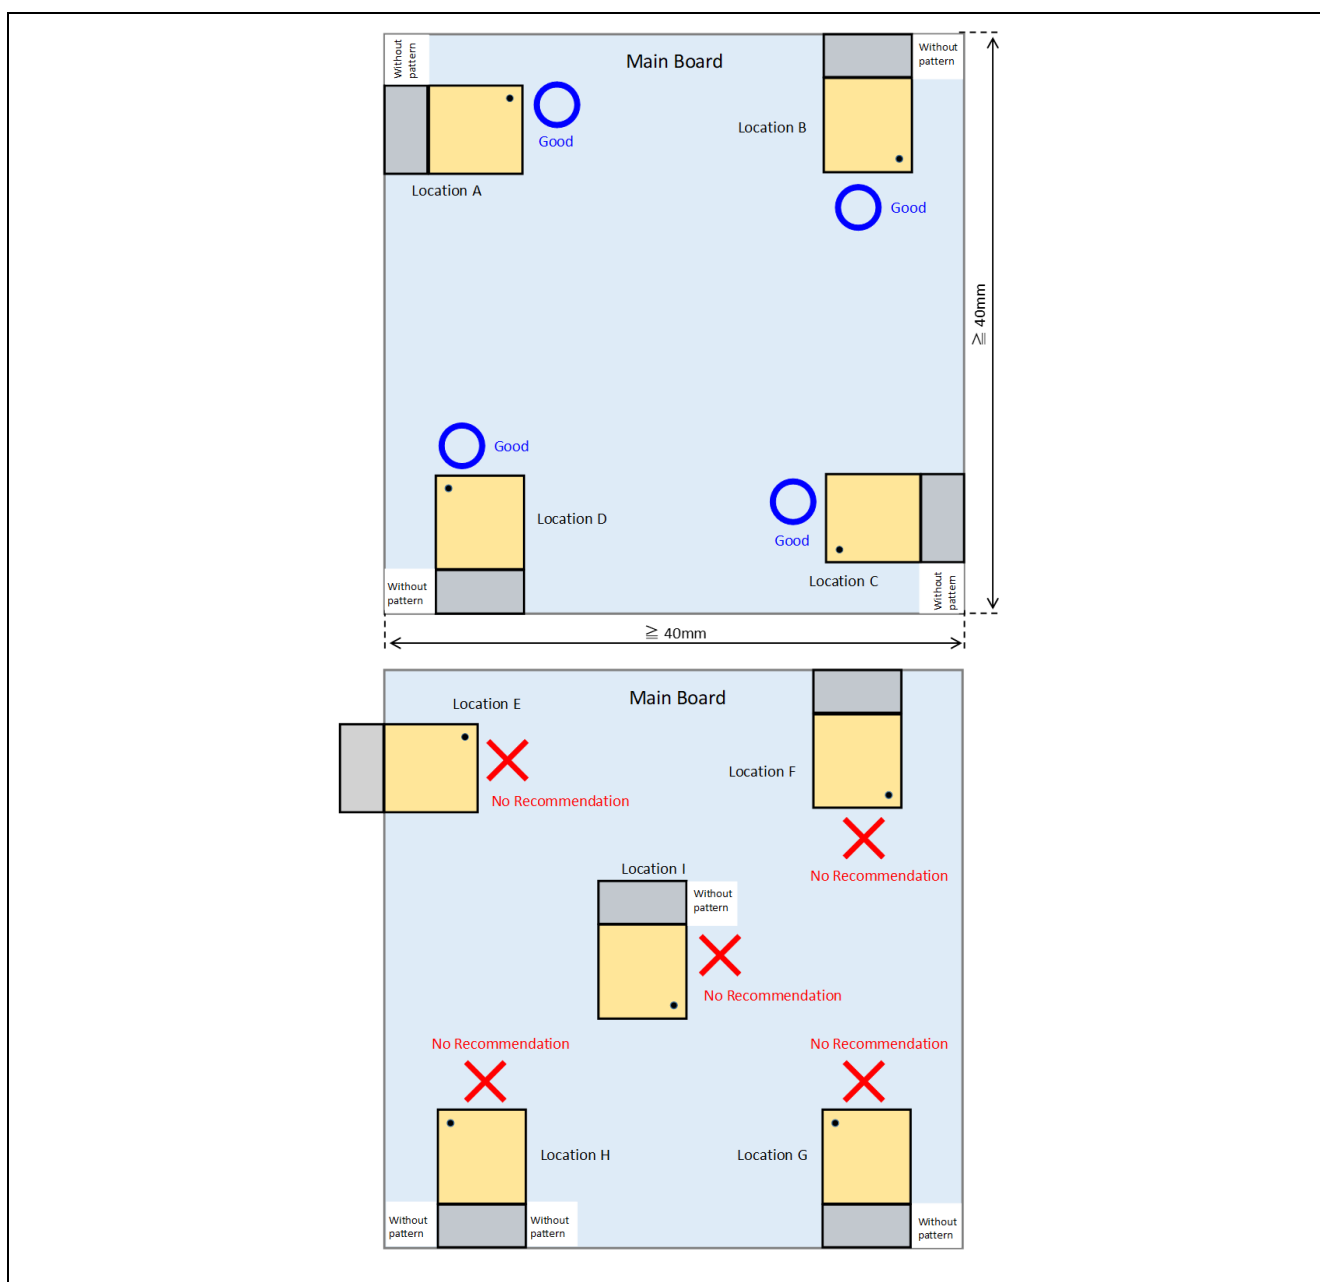

Figure 4-6 Example of the main board layout
- 7-4. It is recommended to mount at locations A, B, C and D as shown in Figure 4-6.
Figure 4-6 shows an example of the main board layout.